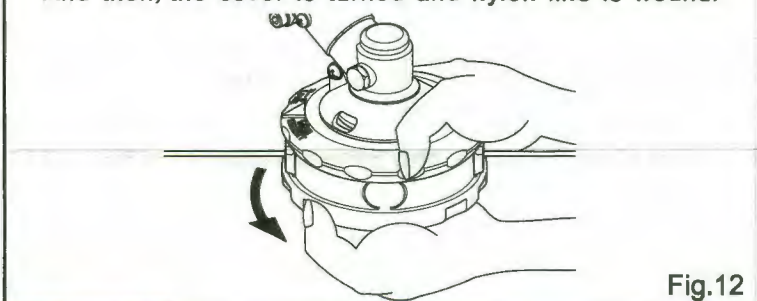
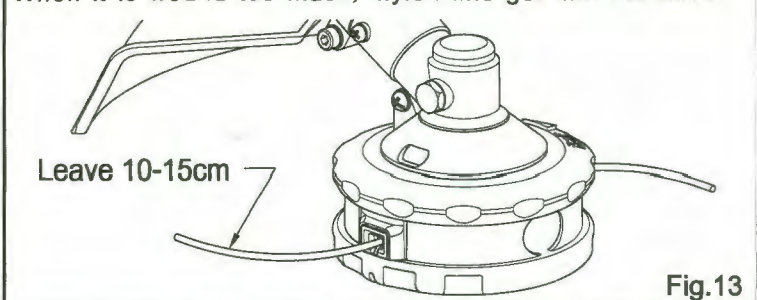

Fig. 12
Fig. 13
4. Wind the top cover until the line is fully wound into the head with only 10-15cm of line protruding from each eyelet. ※Do not over-wind or the line will pull inside the eyelet. (Fig. 12 & Fig. 13)